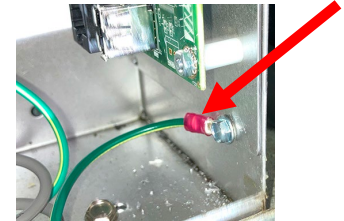

Figure 10
- Cut or disconnect the green ground wire of the harness from the box (see Figure 10).